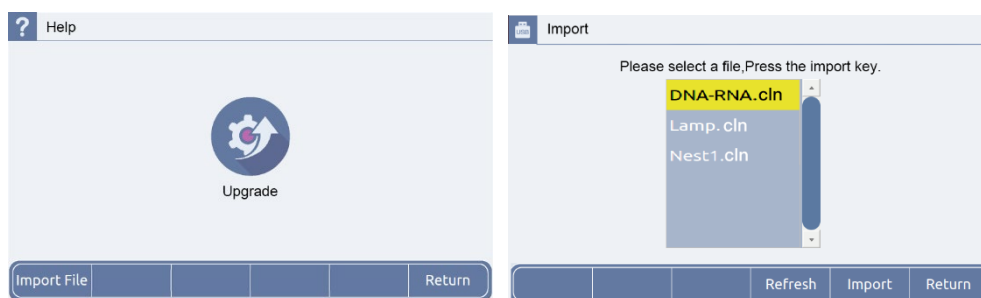

Fig 12. Reaction Program Import Screen
2. Turn on the instrument and press <Help> on the main screen to enter the help screen (Figure 12).